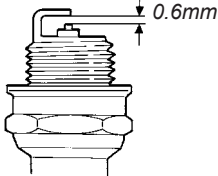

Figure 24
2. Clean the electrode with a wire brush. If necessary, adjust the electrode gap. The gap should be 0.6mm. See Figure 24.